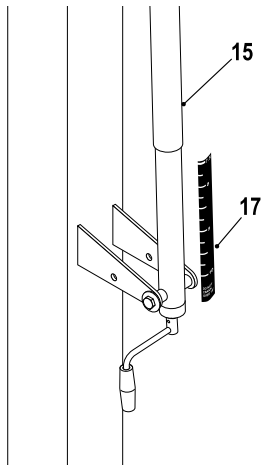

Figure 11
- Adjust unit to 7-1/2 feet. Use a tape measure to measure from the top of the rim to the playing surface. Stick Height Decal (#17) to back of Actuator (#16) with the "7.5" mark aligned with bottom of Actuator Sleeve (#15). See Figure 11.